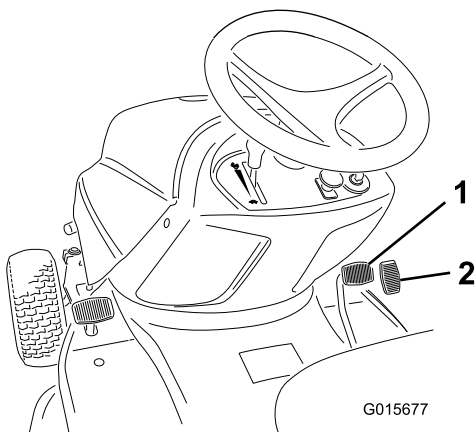

Figure 14
2. Place your foot on the traction control pedal and slowly press on the pedal to move forward (Figure 14).
2. Place your foot on the reverse speed pedal and slowly press on the pedal to move backward (Figure 14).